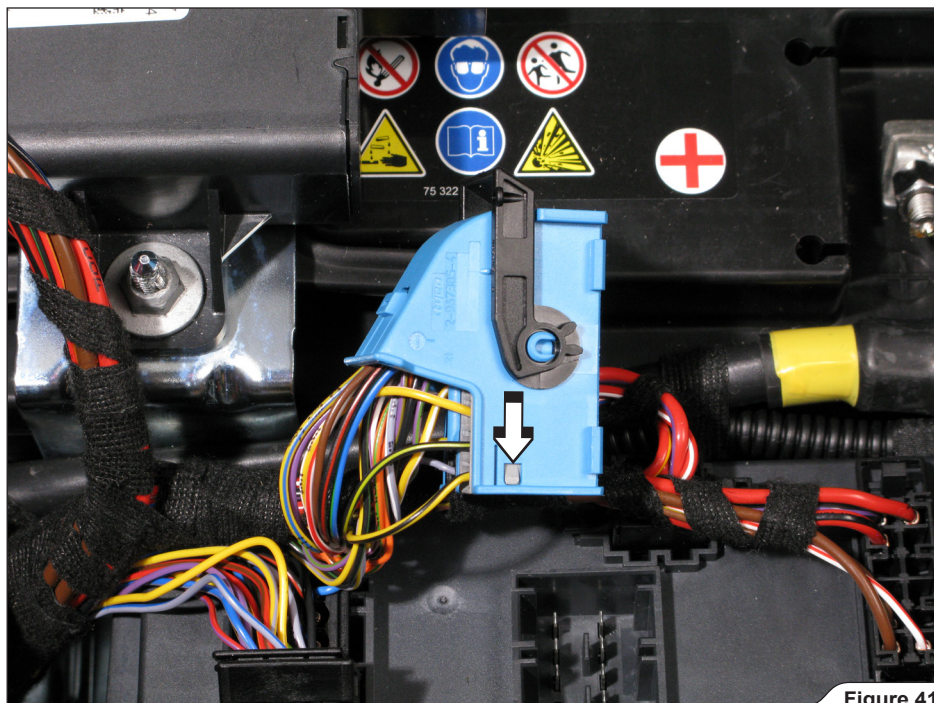

Figure 41
5. Dismantle the connector (Figure 41).